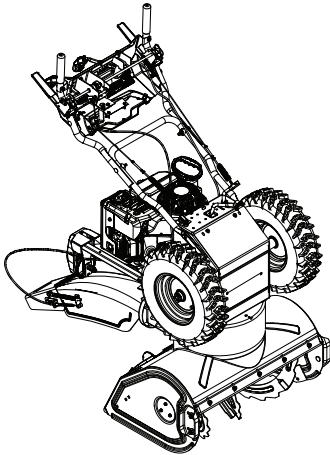

Figure 9
See Figure 9.
1. Place unit in service position. See Figure 9.